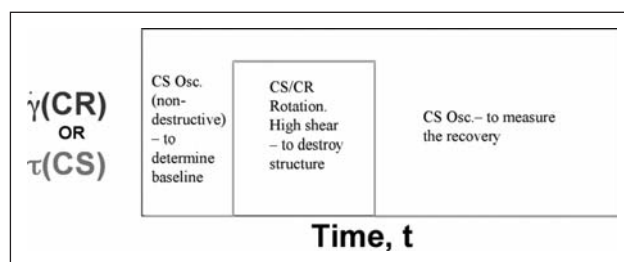
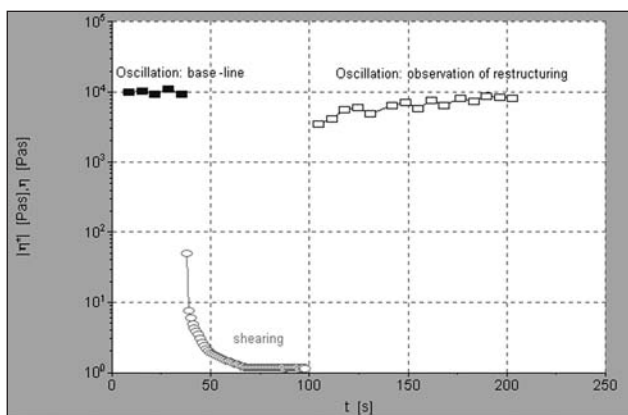

Figure 6: Input for shear and recovery test
Figure 7: Results from a shear and recovery test
- The material is subjected to a shear rate profile, like in Figure 6.
- The reaction of the material to the imposed deformation (for oscillatory measurements it is convenient to use the complex viscosity), shear rate (reaction = shear stress) or shear stress (reaction = shear rate) is measured and the viscosity calculated according to equation (1).
- The results of the steady shear rate experiment are viscosity vs. time curves, as illustrated in Figure 7.